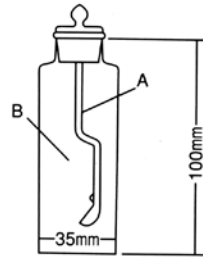

Figure 16: Semi-Solid Sampling Bottle
(5) Sampling bottle for semi-solids
This container (Figure 16) is used for high-viscosity samples, such as greases. The sample is first taken onto the sampling spoon (A), which is then weighed together with the bottle (B). Next, the sample is inserted into the titration flask together with the sampling spoon. The spoon is stirred for a period to allow the sample to dissolve. On completion of the measurement the sampling spoon is returned to the sampling bottle, which is then weighed. The difference between the two weights is the weight of the sample.